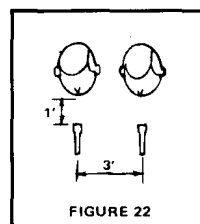

FIGURE 22
**Avoiding Multiple-Microphone Interference.** Voids which can occur in frequency response when the outputs of two microphones are combined can be avoided if the microphones are at least three times as far apart as either is from the user. The 3-to-1 ratio is illustrated in Figure 22. The ratio is frequently violated in stage microphone placement and is often the culprit for strangely inadequate sound-system performance. Some illustration of "good" and "bad" multiple-microphone placements are shown in Figures 24, 25, and 26. The "bad" placements can ruin the performance of an otherwise excellent sound system!